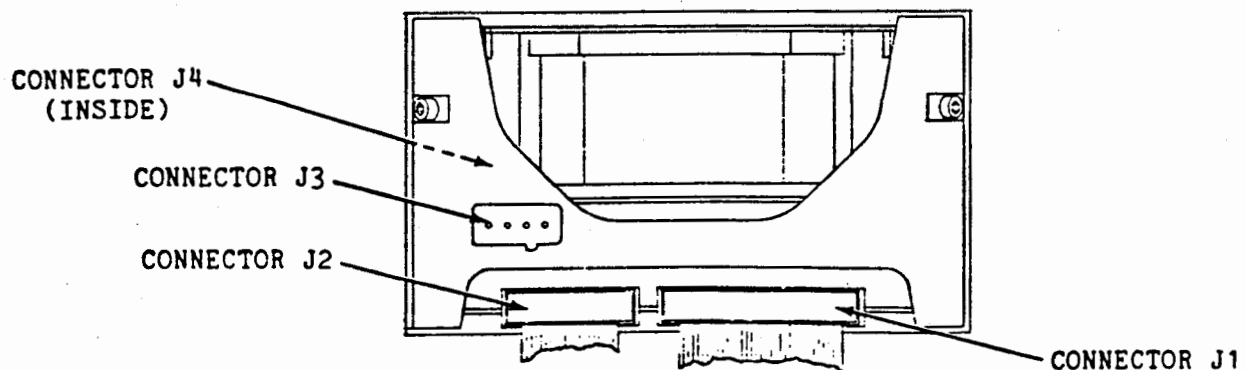

Figure 6-4. Electrical Connection
The electrical interface to the Model 1300 drive is pin and function compatible with the industry standard for 5 1/4-inch Winchester disk drives. Electrical connection is made via four connectors, which are accessible at the rear of the drive enclosure (see Figure 6-4). Connectors J1 and J2 provide signal interconnection between the drive and host controller, J3 is the DC power connector, and J4 provides for grounding to the system.
6.2 Control Signal Connector J1 (see Figure 6-4)
6.3 Data Transfer Connector J2 (see Figure 6-4)
6.4 DC Power Connector J3 (see Figure 6-4)
6.5 Ground Connector J4 (see Figure 6-4)